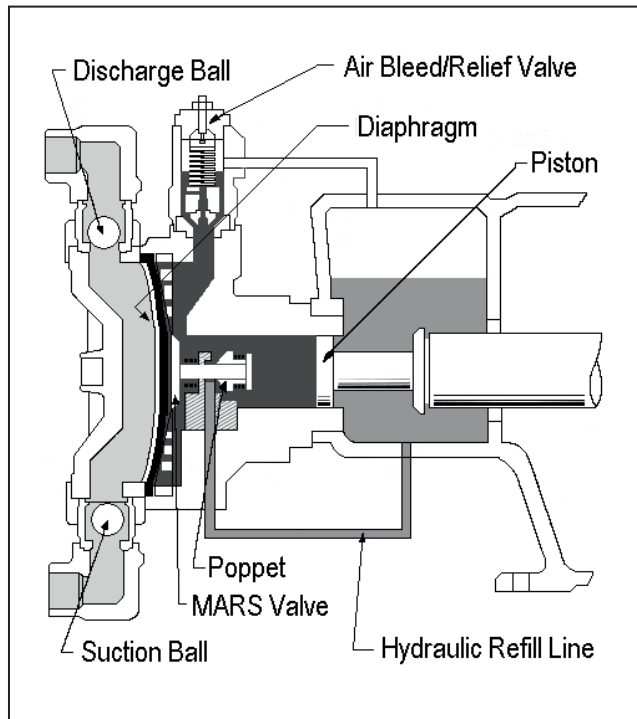

Figure 1. Principle of Operation-Suction.
1.3 PRINCIPLE OF OPERATION FIGURES 1 AND 2